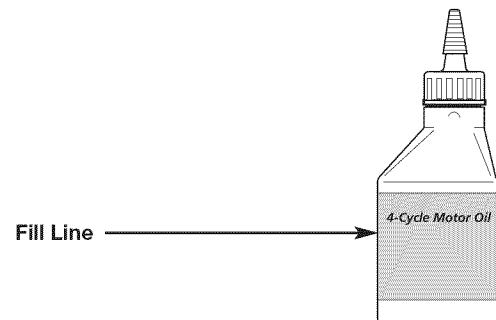

Fig. 21
**NOTE:** Use the empty oil bottle saved from the initial use to measure the correct amount of oil. Fill the oil bottle to the 2.03 fl. oz (60 ml) fill line indicated on the back of the bottle (Fig. 21).